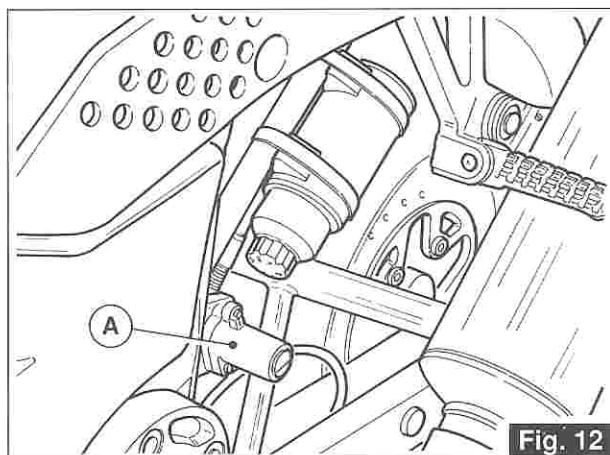

Fig. 12
3.16 DISPOSITIVO PORTACASCO (fig. 12)
3.16 HELMET HOLDER (fig. 12)